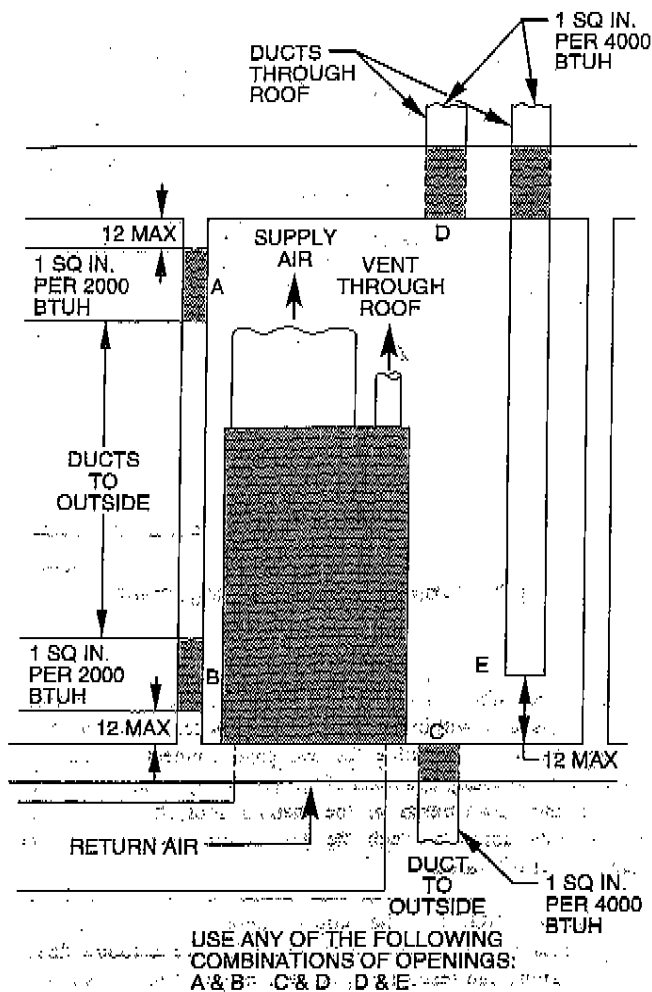

Fig. 3—Air For Combustion and Ventilation (Outside Air)
a. If combustion air is taken from outdoors through vertical ducts, the openings and ducts MUST have at least 1 sq. in. of free area per 4000 Btuh of the total input for all equipment within the confined space. (See Fig. 3.)
When ducts are used, they must be of the same cross-sectional area as the free area of the openings to which they connect. The minimum dimension of rectangular ducts must not be less than 3 in. (See Fig. 3.)